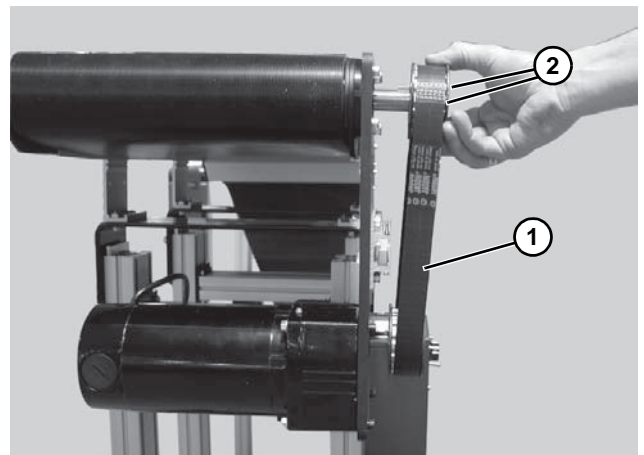

Figure 15
3. Remove timing belt (Figure 15, item 1).
If timing belt does not slide over pulley flange, loosen driven pulley taper-lock screws (Figure 15, item 2) and remove pulley with belt (Figure 15, item 1). For re-installation, see steps 7 thru 9 beginning on page 8.